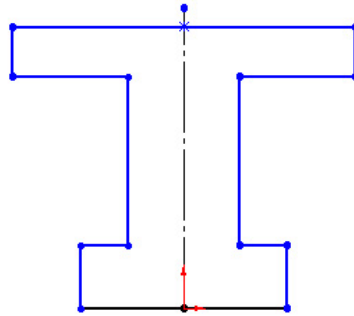

Figure 8 Sketch profile without sizes.
7. Click Sketch Mirror  on the Sketch toolbar. Sketch profile is complete and is shown in Figure 8.